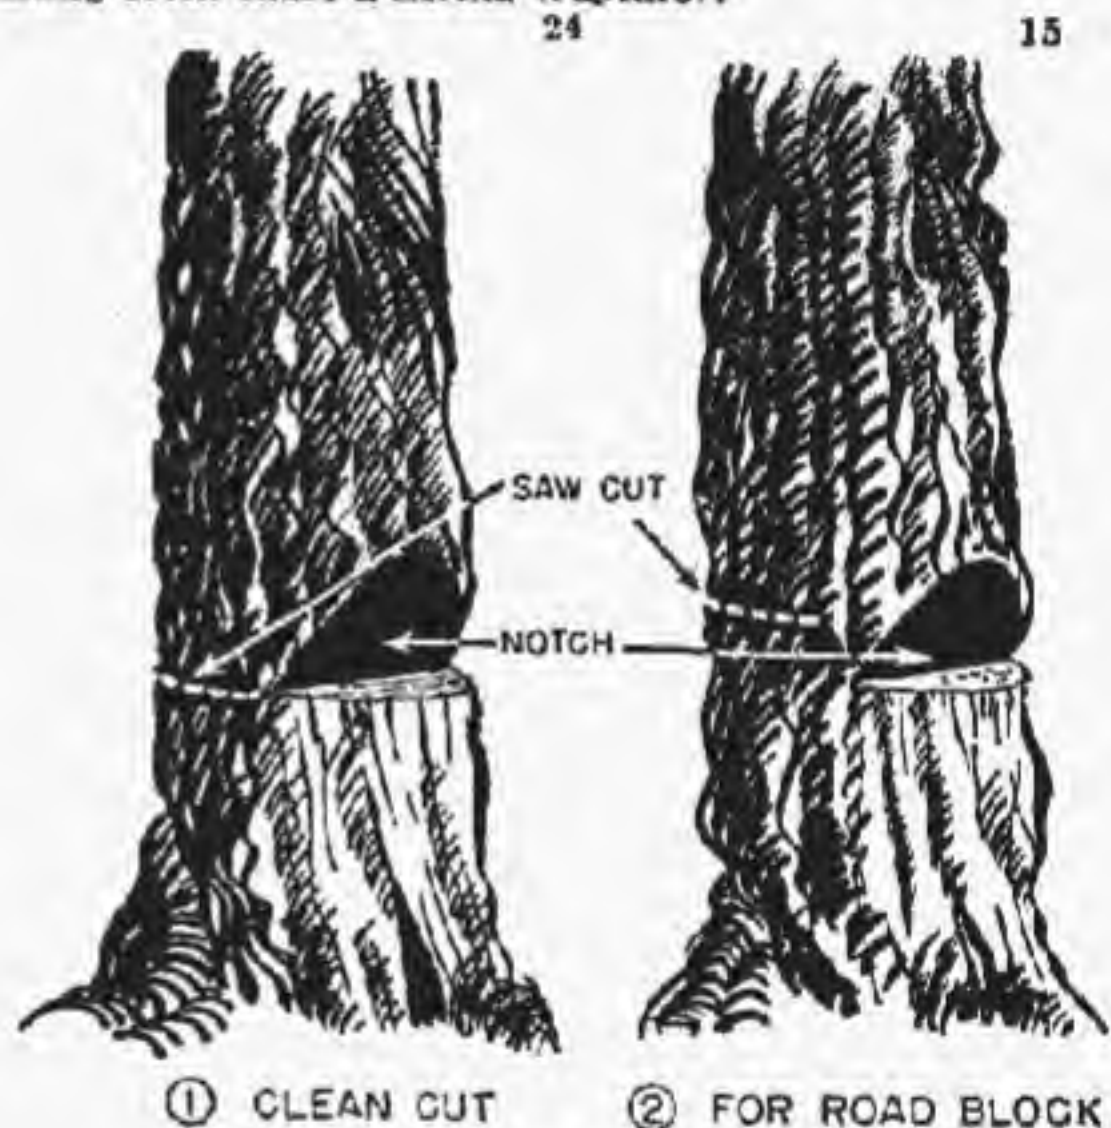

FIG. 36.—How to fell trees.
■ 12. **FELLING TREES.**—With an ax, cut a deep notch near the base of the tree (see fig. 36) on the side toward which the tree is to fall. Then saw the tree on the opposite side to cut the remaining fibers, using steel wedges, if necessary, to keep the saw from binding. To cut the trunk clear of the stump, the saw cut should be started opposite the point of the notch. Where it is desired to keep the base of the tree firmly attached to the stump after felling, as in making a tree road block, the saw cut should be made considerably higher than the notch, so that all fibers will not be severed when the trunk falls. It is often advisable to use guy lines